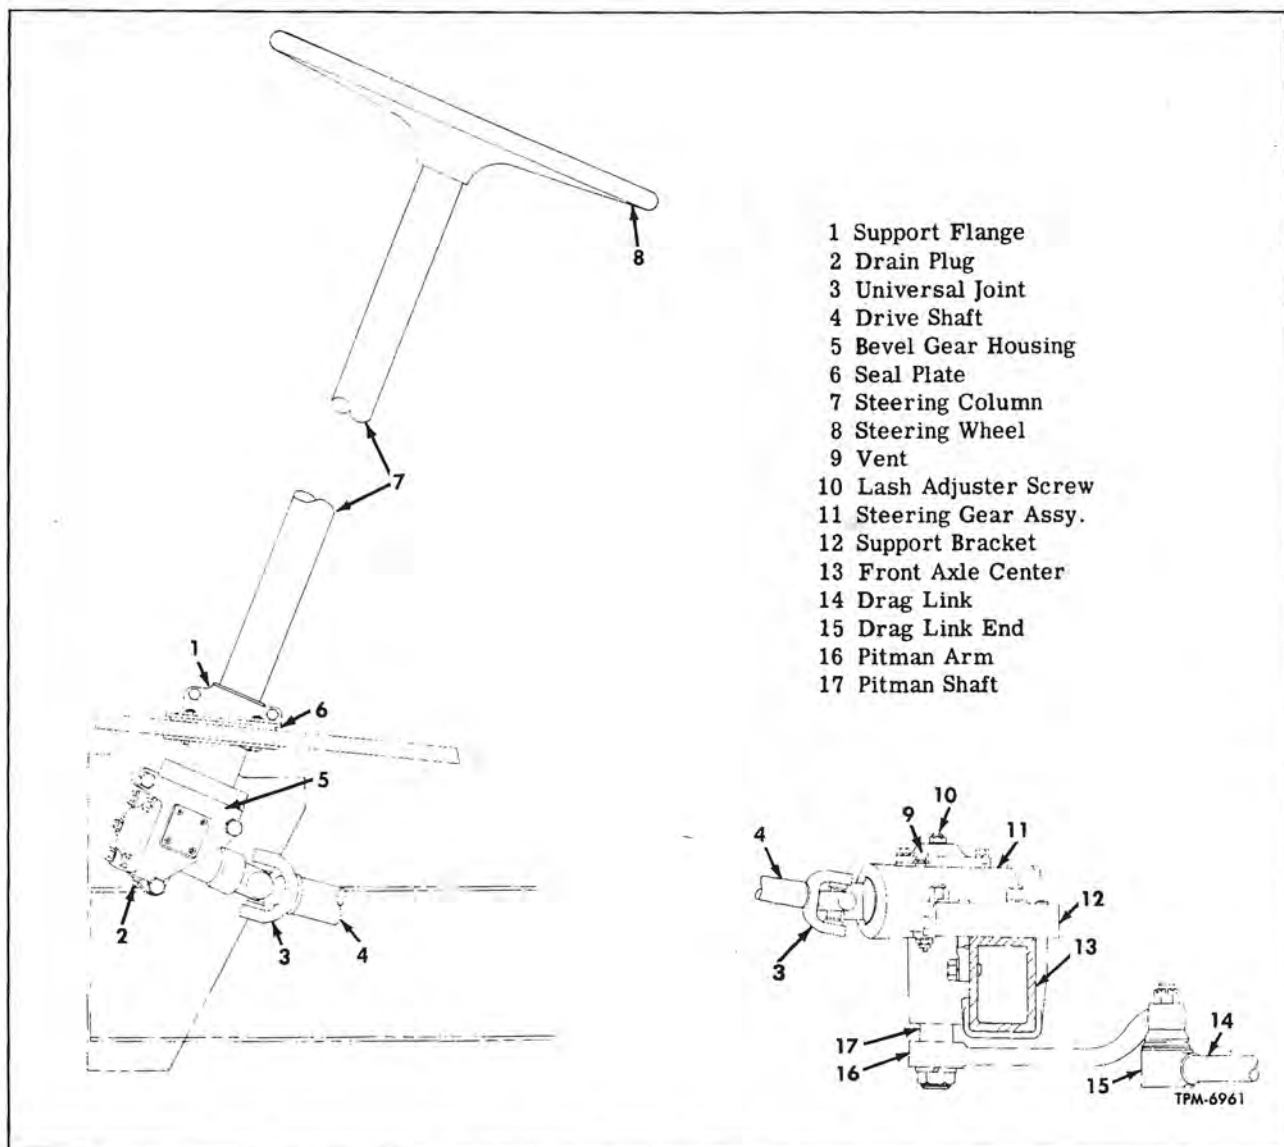

Figure 1—Steering System Installation (Typical)
The steering system is comprised of steering column and bevel gear assembly, drive shaft, steering gear assembly, drag link, and allied parts of front axle (fig. 1).
The steering gear is a conventional recirculating ball bearing and sector nut type, mounted on the front axle center and connected to the steering column bevel gear unit by a drive shaft as shown in figure 1.
#### **MOUNTING (Fig. 1)**
Steering system installation is illustrated in figure 1. Steering column and bevel gear housing assembly is bolted to a bracket on left-hand frame longitudinal member, with steering column extending upward through floor. Steering column support flange and seal plate are attached to floor with four bolts.
**STEERING COLUMN AND BEVEL GEAR****REPLACEMENT****REMOVAL (Fig. 1)**
**INSTALLATION (Fig. 1)**